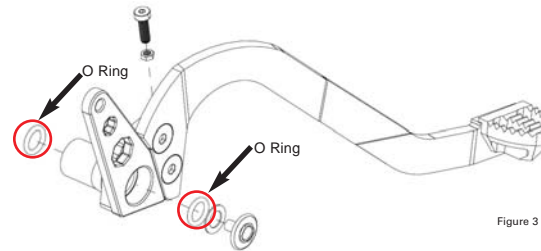

Figure 3
4. Install original O-rings into new brake assembly as shown in Figure 3.